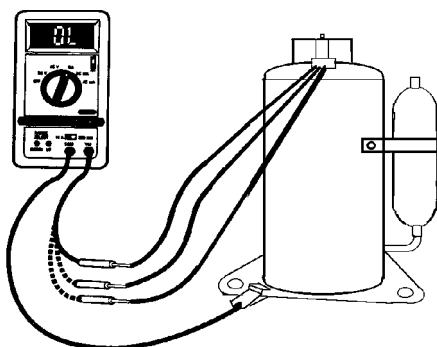

FIGURE 31 — GROUNDED WINDINGS TEST
- Next, perform a grounded windings test to test the resistance individually of each wire to the shell of the compressor. The paint on the compressor can prevent good contact between the probe and the metal. The paint should be removed from a small section of the shell of the compressor to ensure good contact by the meter probe. The volt-ohmmeter should be set to at least the 100X ohm level. The measured resistance between each wire and ground should be infinite or O.L. on the readout. If there is measurable resistance one of the windings is likely shorted to ground. See Figure 31.